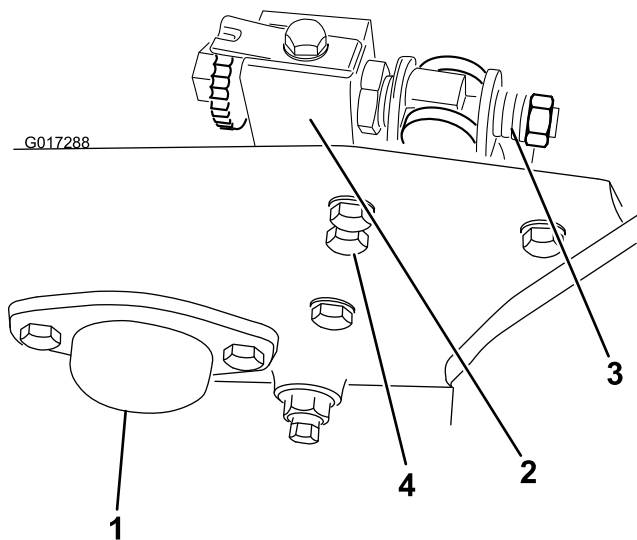

Figure 3
5. Remove the two capscrews and locknuts securing the end cap to the left reel bearing housing and the side plate of the machine. Remove and retain the end cap and the mounting screws for use if the groomer is ever removed (Figure 3).
6. Using a 7/8 inch standard wrench, loosen the spring tension screws on the right and left bedbar adjusters (Figure 3). Back out the screws until the thrust washers are no longer tensioned against the bedbar.
7. Remove the two capscrews and washers securing left bedbar adjuster frame to side plate (Figure 3).